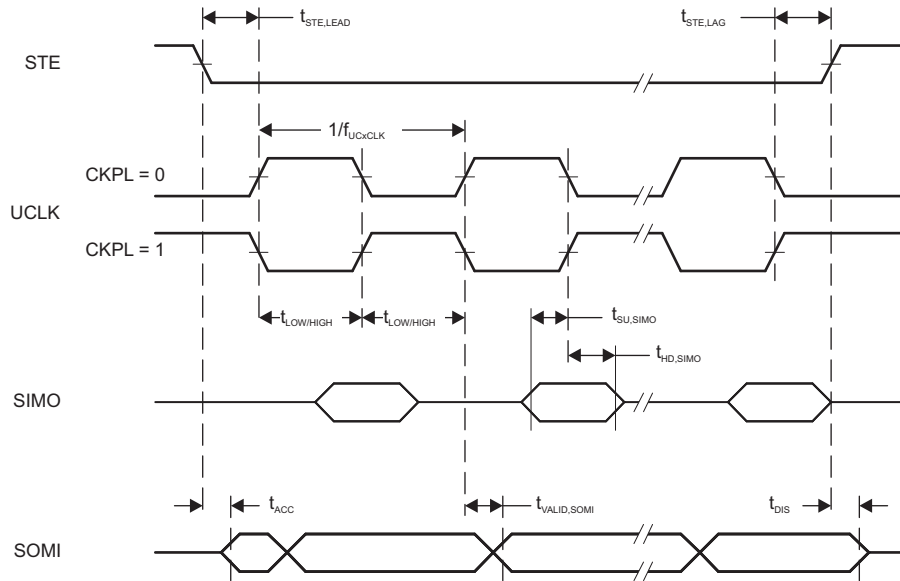
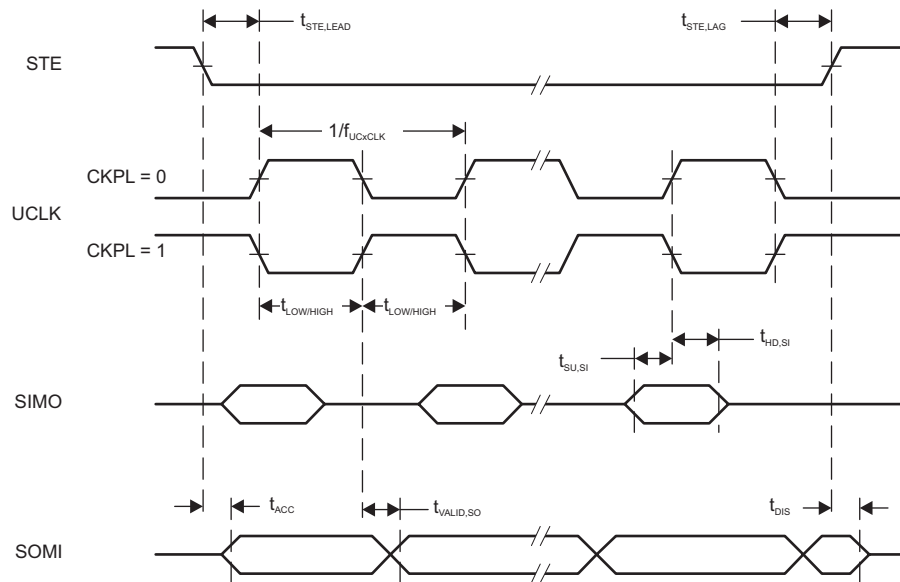

FIG 5-13. SPI Slave Mode, CKPH = 0
FIG 5-14. SPI Slave Mode, CKPH = 1
- (2) Specifies the time to drive the next valid data to the SOMI output after the output changing UCLK clock edge. See the timing diagrams in 图 5-13 and 图 5-14.
- (3) Specifies how long data on the SOMI output is valid after the output changing UCLK clock edge. See the timing diagrams in 图 5-13 and 图 5-14.